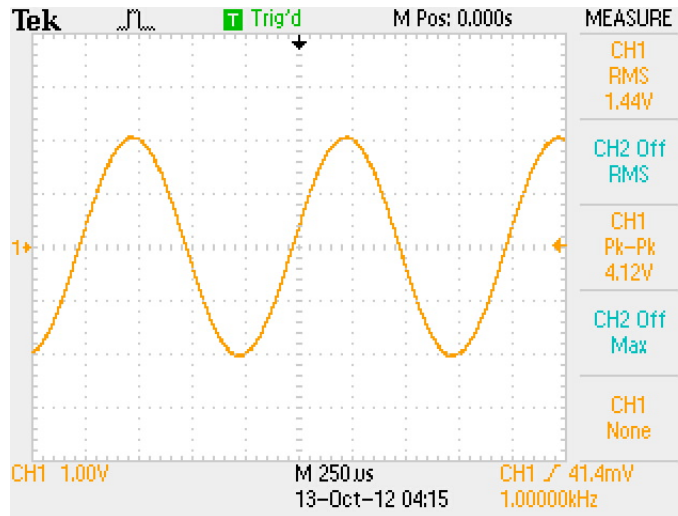

Figure 12: Measure menu
Pressing the 'Measure' button brings up a set of measurement menu on the right side of the display, as shown in Figure 12. There are five menu items, each of which can display a different measurement of the signal on either Ch1 or Ch2. There are twelve different measurements to choose from, as shown in Table 2. To select a measurement, push the menu soft button of one of the five items and cycle through the eleven choices until you find what you want. Then make the appropriate changes to the parameters that are listed for each measurement. When you are finished selecting parameters, select 'Back'. In the example below, the first menu item measures the RMS voltage on Ch1, and the third measures the peak-to-peak voltage. The other items have been left in their default state.
- a. Press the 'Measure' button to bring up the measurement menu options on the display, as in Figure 12.